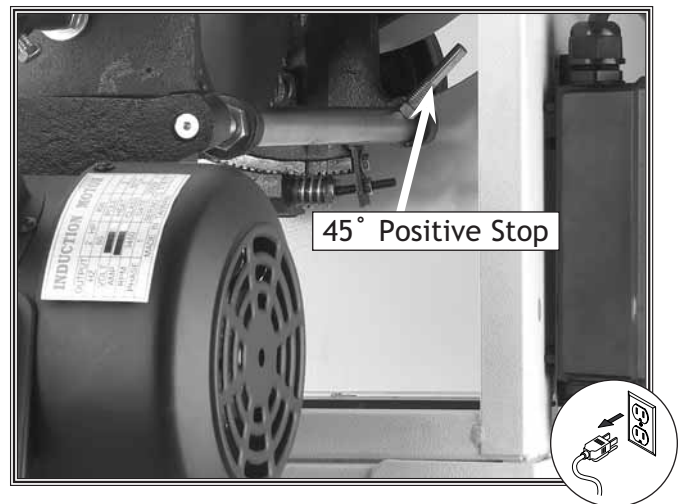

Figure 51. 45° Positive stop.
1. Reach through the back of the saw and locate the positive stop bolt shown in **Figure 51**.